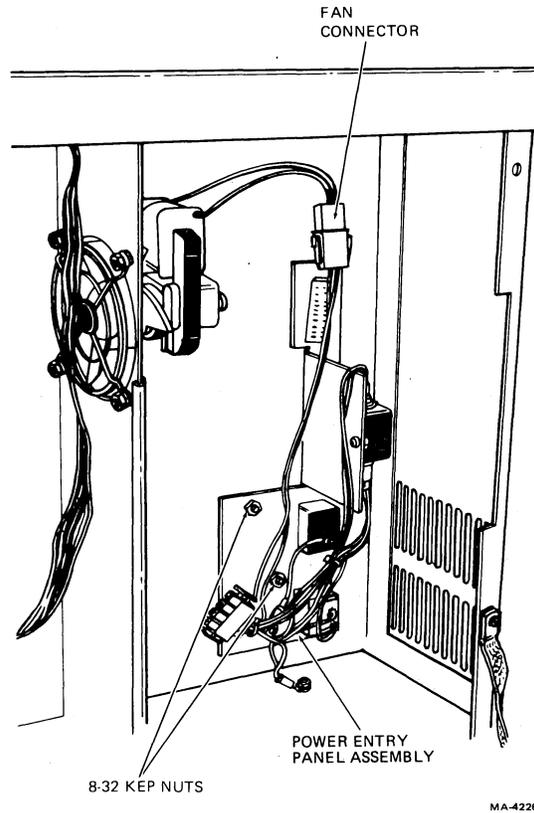

Fig. 25—Power Entry Panel Assembly CVT Removal and Installation
- (f) Remove the three (8-32) nuts and captive washers (Figure 25).